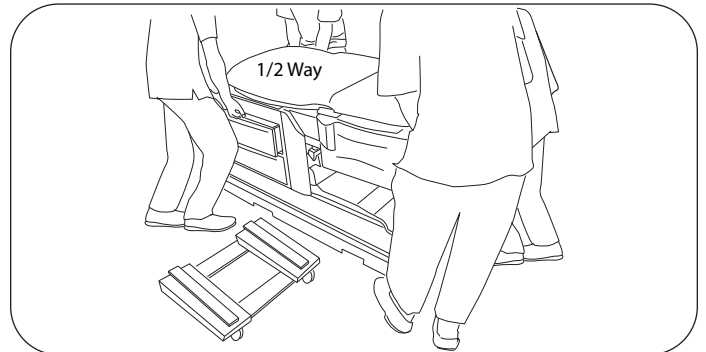

Figure 22. Rear Lift Points
1. For safety, move table onto furniture dolly in two steps. Lift table straight up, move half-way off of pallet and lower straight down (Figure 22).